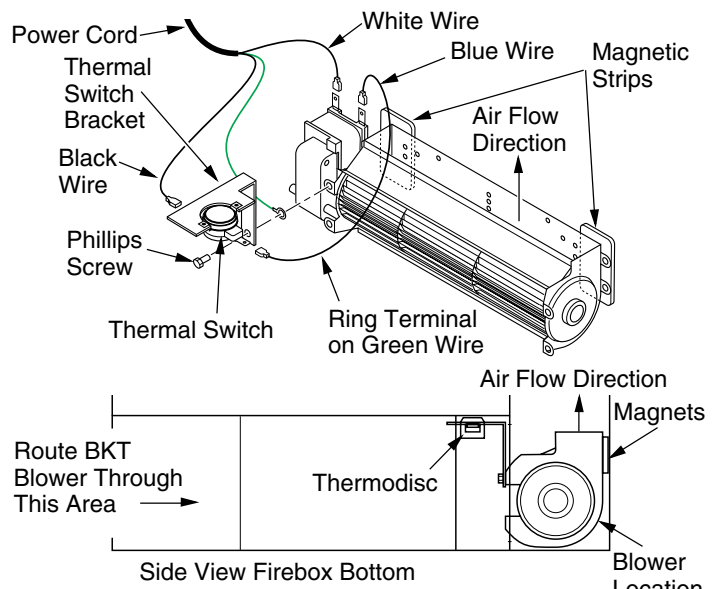

Figure 28 - Blower Model BKT
1. Place the green ground wire with ring terminal between the bottom hole on the thermal switch bracket and the top ear hole on the blower assembly. Insert the phillips screw into all three pieces and tighten securely (see Figure 28).
oriented near the fireplace bottom as shown in Figure 28 in order to sense temperature and properly operate. The blower will be held in position against the back wall by the magnets incorporated onto the blower housing (see Figure 28).